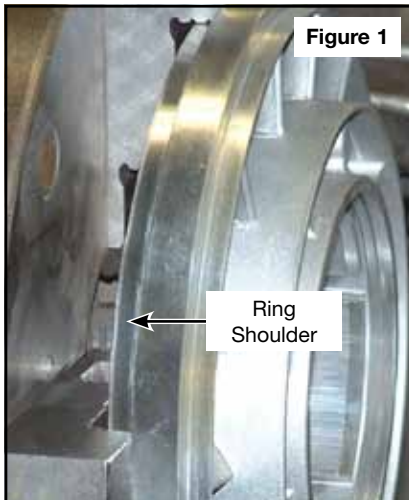

Figure 1
- a. Chuck the stator in a lathe from the impeller side, holding onto the machined surface on the outer ring shoulder (Figure 1).